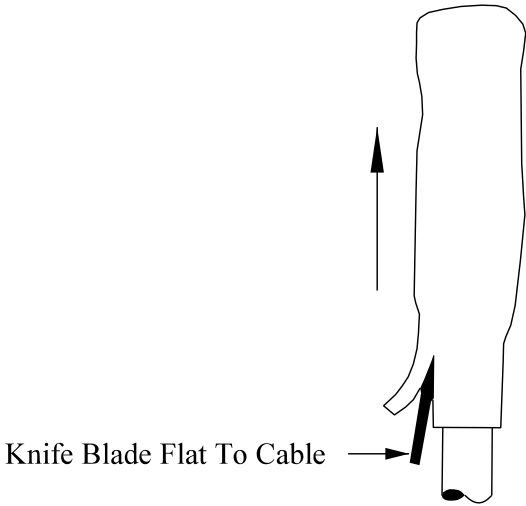

Fig 8
- 10.4. If the service cable has a permanent pot end then, gently warm the outer cap and using the knife blade flat to the cable, slice the cap working towards the cable end and remove - Fig 8. Remove the securing tapes and tinned copper mesh.